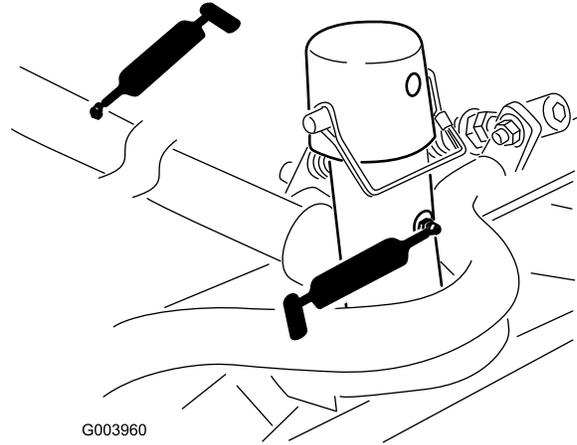

**Figure 107**
- Cutting-unit lift-arm cylinders (2 each) (Figure 107)
- Lift-arm pivots (1 each) (Figure 107)